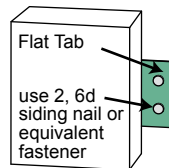

Figure 20
Step 2: For wood frame construction, attach the trim to the building using 2, 6d siding nails fastened through the Flat Tabs. ET&F or equivalent fasteners may be used to attach the Flat Tabs to steel frame construction. (Figures 20)